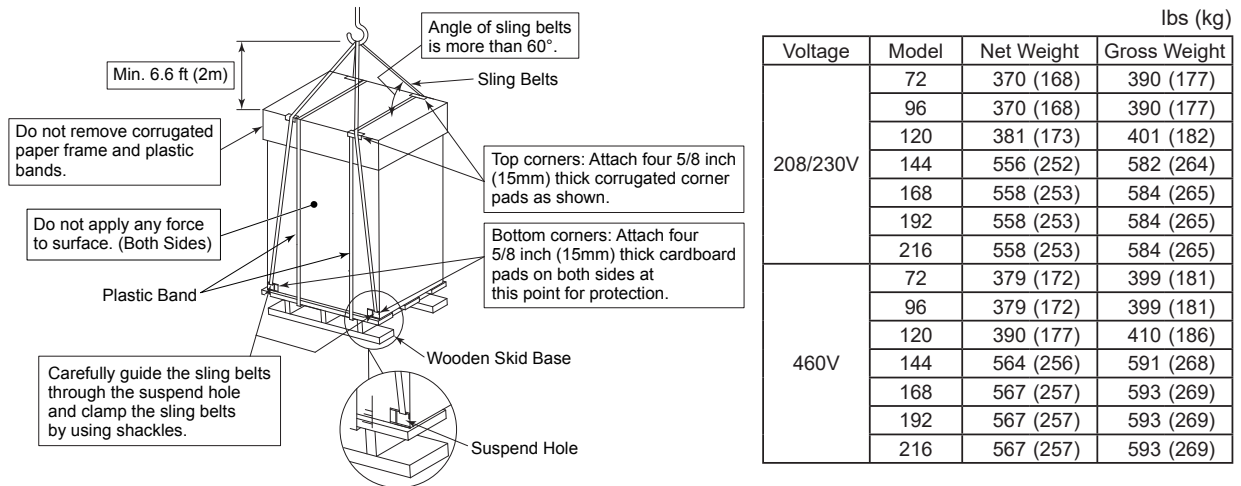

Figure 5.1 Suspending Unit on Wooden Skid Base for Transportation
- (1) Suspend the unit (with wooden skid base) in its packaging with two sling belts as shown in Figure 5.1.
- (2) Do not use banding wire.
- (3) Ensure that the unit is balanced.
- (4) Ensure safety while hoisting the unit gently to prevent the unit from tipping over.